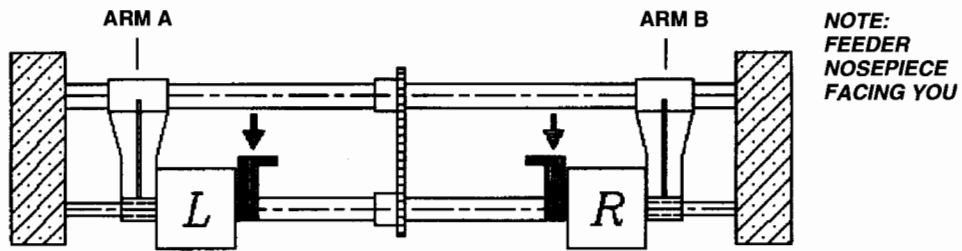

Figure 4-8. Reattaching the Blue Retainers.
12. Position rollers against respective arms, and reattach the blue retainers by firmly pressing into the grooves on Shaft 1, as shown in figure 4-8.